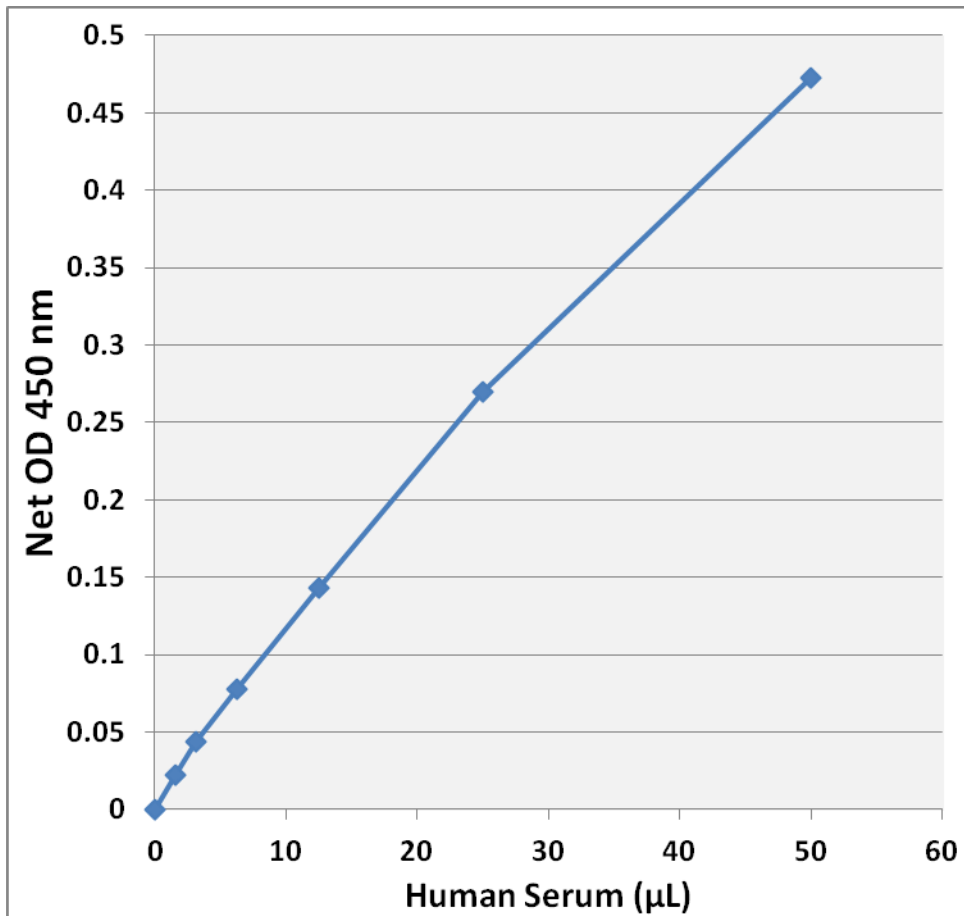

Figure 3: BCCA Detection in Human Serum using the Branched Amino Acid Assay Kit.
4. Subtract the sample well values without Leucine Dehydrogenase (Control) from the sample well values containing Leucine Dehydrogenase (LD) to obtain the difference. The absorbance difference is due to the enzyme Leucine Dehydrogenase activity (Figure 3):